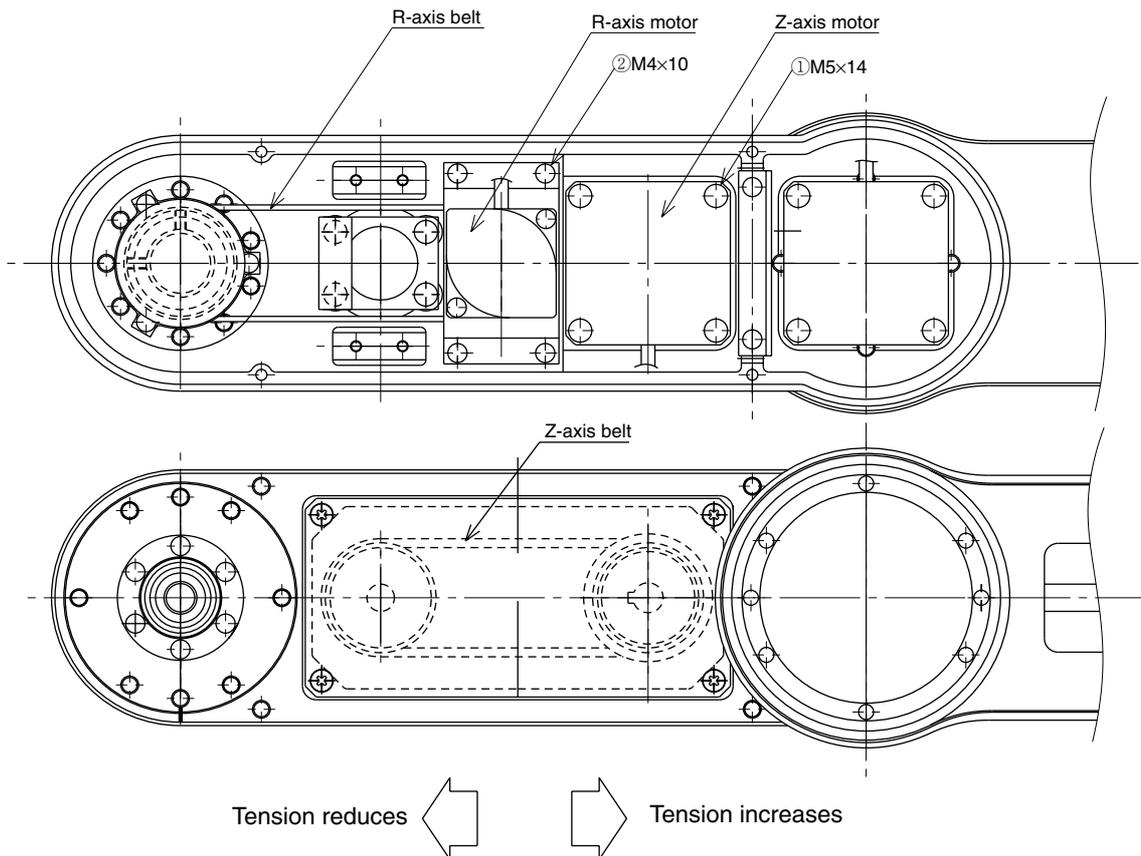

Fig. 4-32 YK500X, YK600X
1. Loosen the bolt ① shown in Fig. 4-32.
1. Loosen the bolt ② shown in Fig. 4-32.
- 9) After adjustment is complete, tighten the bolt ① or ② to the torque specified in Table 4-11.